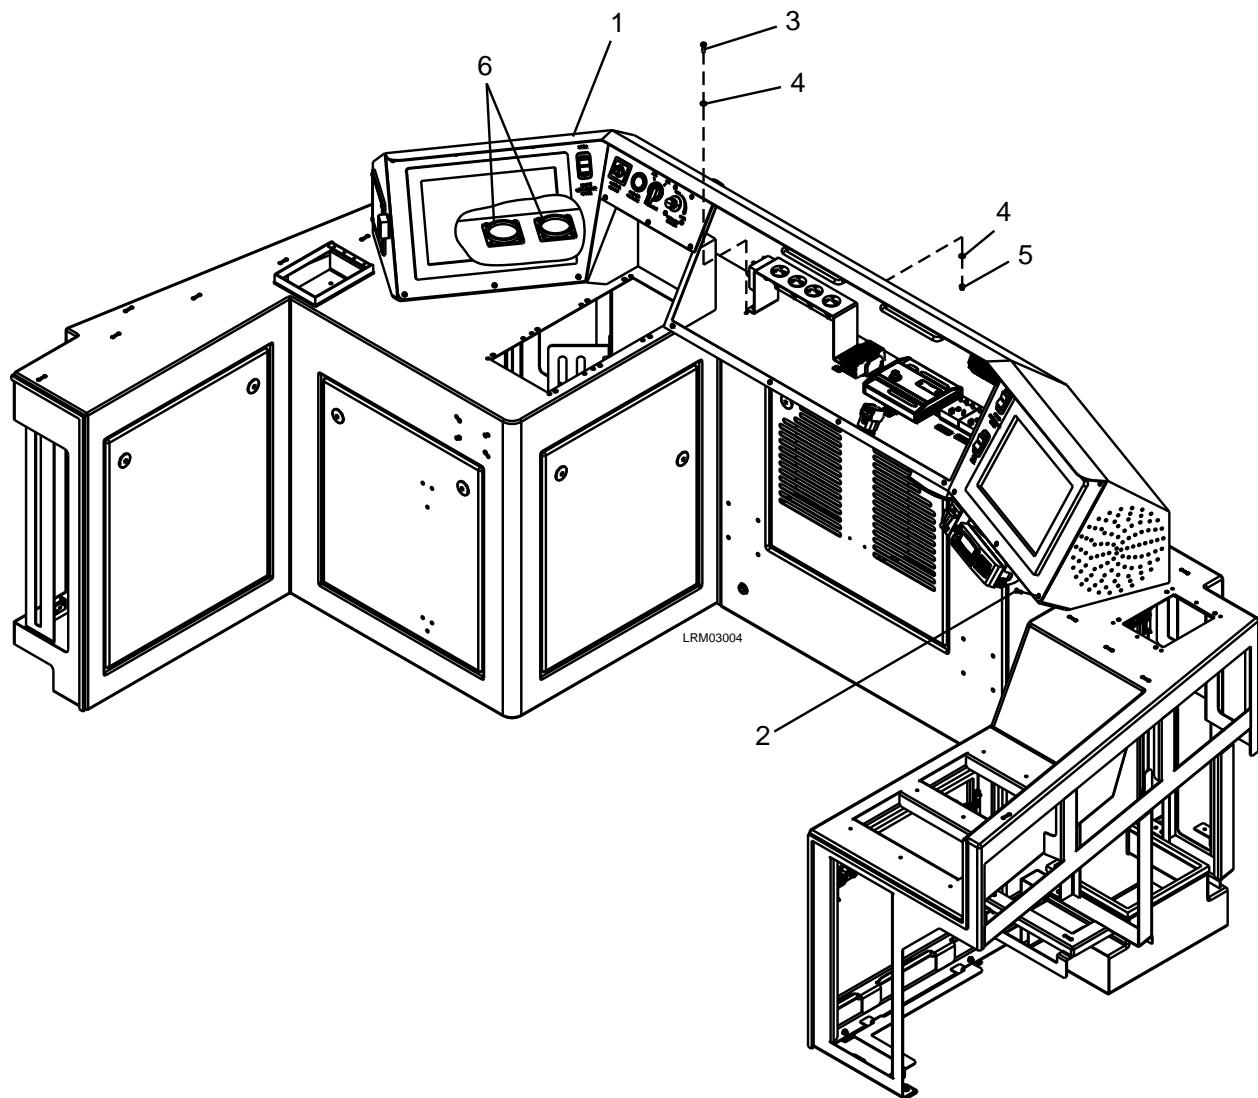

Figure 7-3: Cab Console
1. Disconnect the power from the Console (1) by removing the two connectors (6) from the console. See Figure 7-3.
2. Remove the screws (2), in 23 places that secure Console Panels 1, 3, and 4 to the console.
4. Remove the M5 ESNA nut (5) and M5 plain washer (4) from under the cab desk.
5. Remove the M5 screw (3) and M5 plain washer (4) from inside the Console (1).
7. Carefully remove the Console (1).